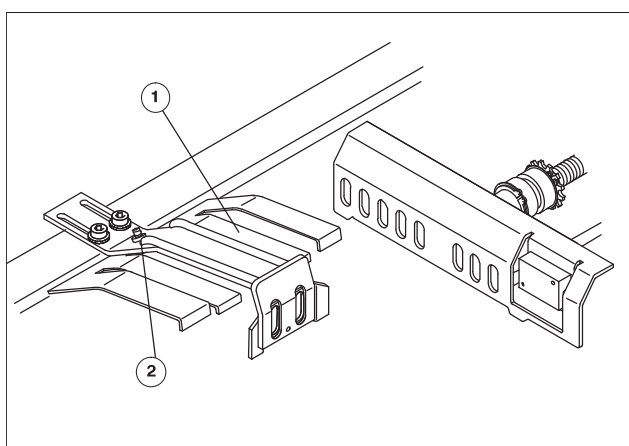

Fig. 4 Rear sheet stop, small sizes
With sheet lengths less than 280 mm, remove the sheet support (Fig. 4/1) in the delivery at the rear sheet stop with sheet widths less than 210 mm.
2. Loosen the Allen screw (Fig. 4/2) at the underside of the sheet stop with the operator tool and remove the sheet support (Fig. 4/1).
3. Retighten the Allen screw (Fig. 4/2).